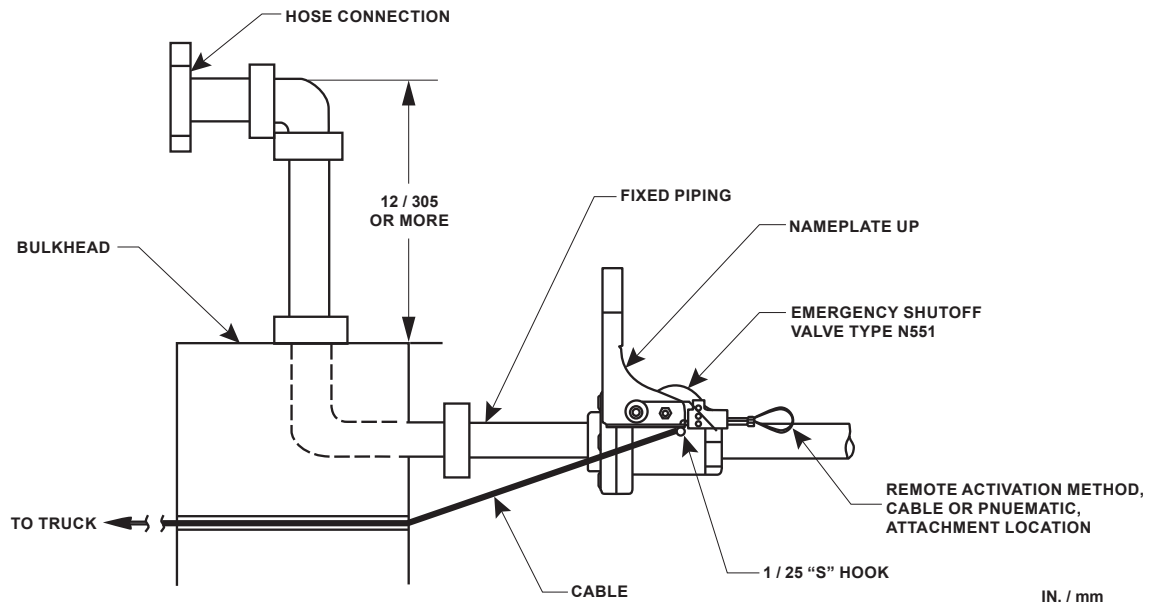

Figure 7. Motion Release Cable Installation (Optional)
1. Connect a suitable release cable such as stainless steel aircraft cable to a standard "S" hook. Attach the "S" hook to the Type N551 handle as shown in Figure 7.
2. The cable should run through the bulkhead just below and to the side of the pipe. The cable should be in line with the operating lever, refer to Figure 7.